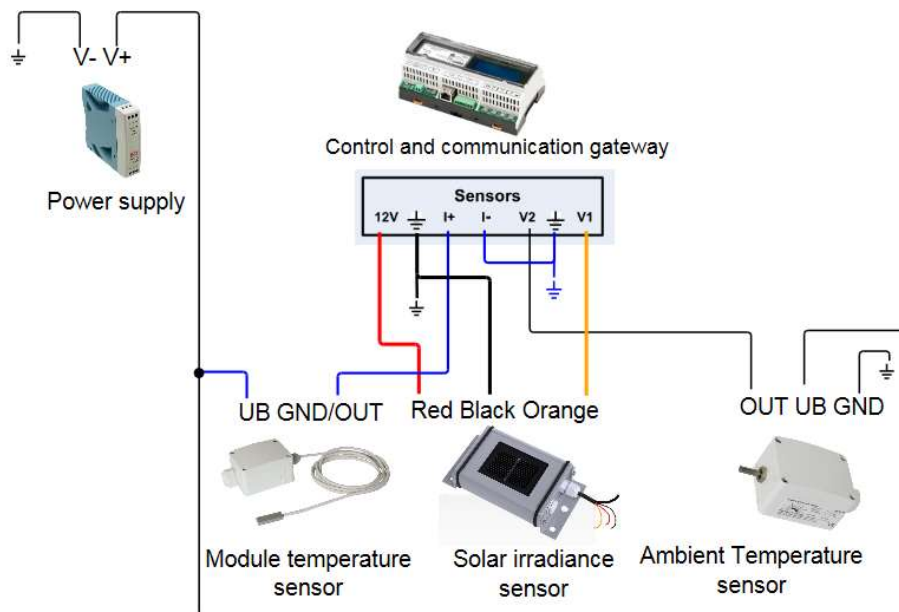

Figure 18: Sensors connection diagram
- 3 Depending on the sensor type, connect as follows (see Figure 18):